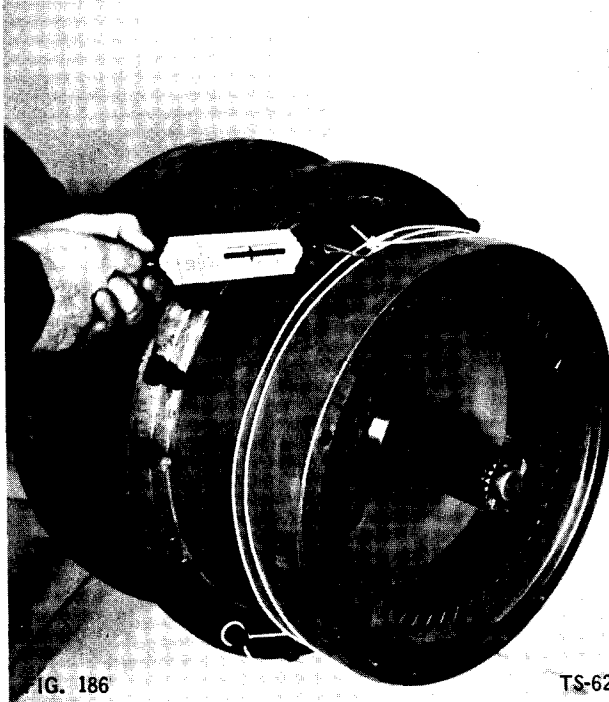

FIG. 186
31. Attach heavy string or cord to one of wheel studs on hub and wrap cord around wheel hub several times attaching pound pull scale to end of cord as shown in Fig. 186. Tighten inner nut until rotating torque measured on pull scale is between 21 and 28 lbs. for new bearings and between 9 and 17 lbs. for used bearings.